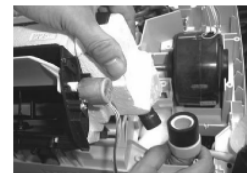

Fig 10
1. Separate the drain hose and the drain plate(Fig.10)